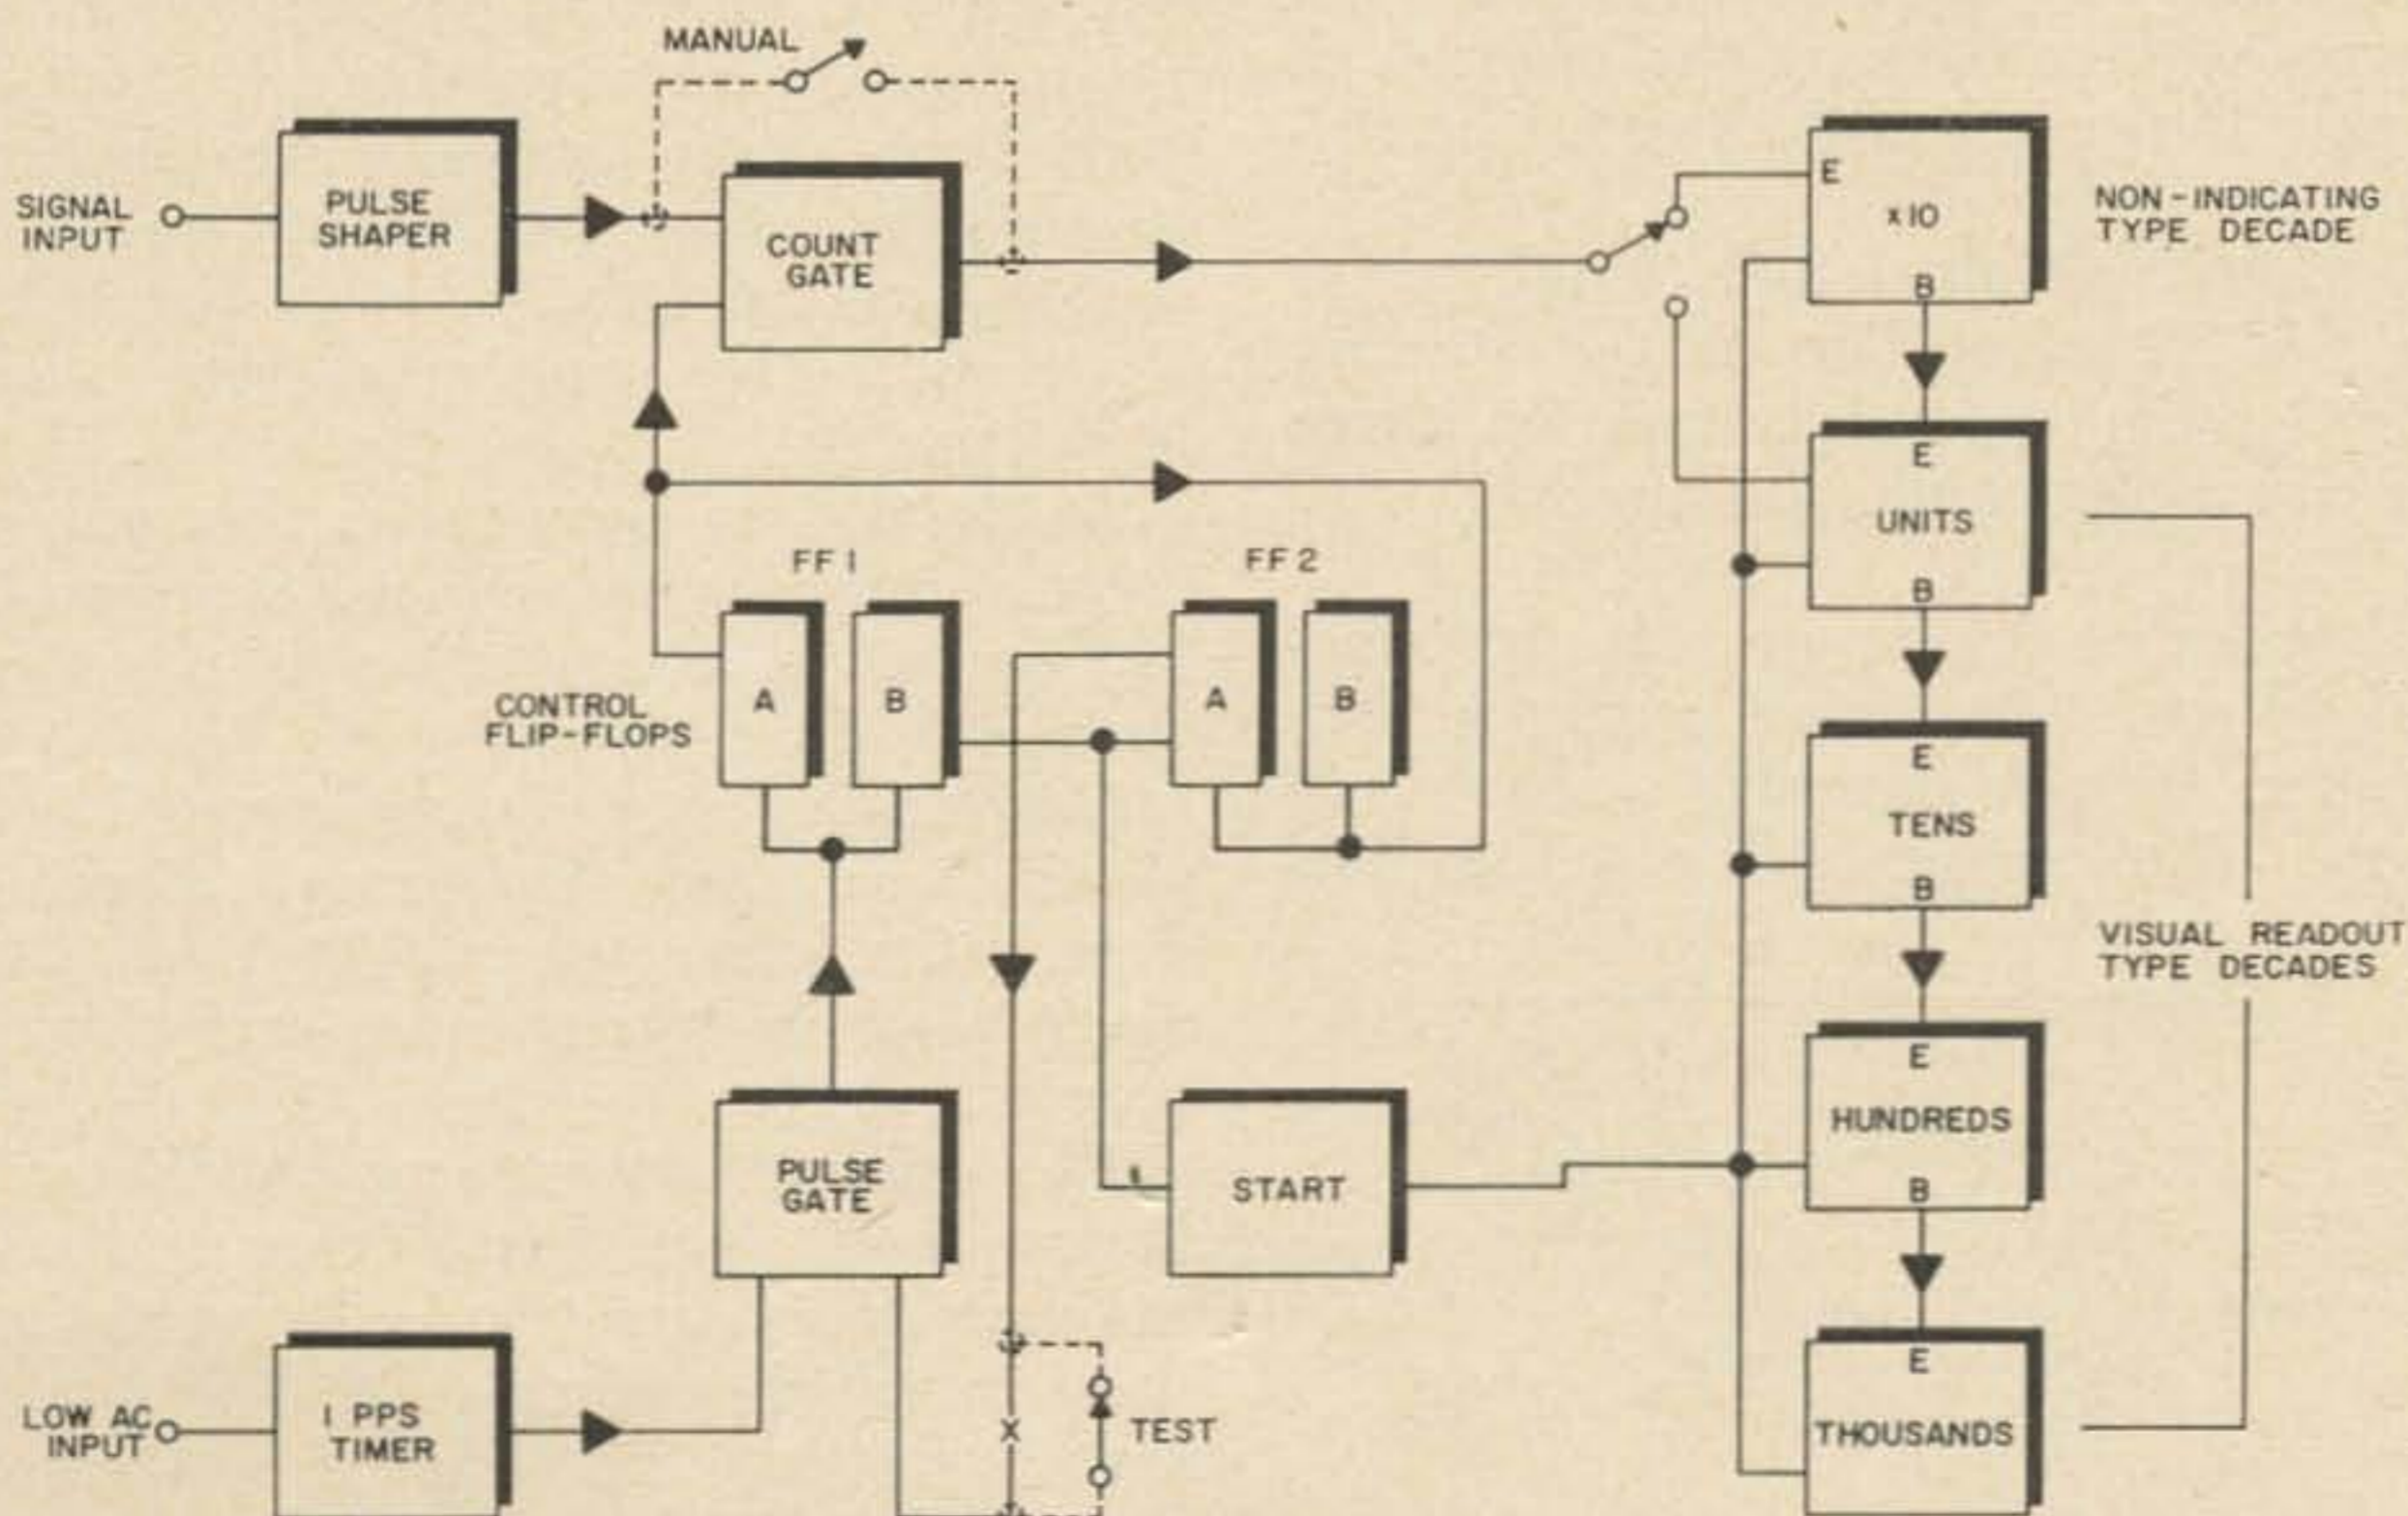

Fig. 1. Automatic counter control.
The circuit diagram of the rf speech clipper is shown in Fig. 1. Provision is made (1) for internal switching of the signal within the SSB exciter for inboard or outboard service (2) for switching the clipper itself in or out with separate gain controls, whether in or out (3) for varying the threshold bias on the 1N34A diodes with the peak limiting control and (4) for varying the output gain to prevent overloading of the succeeding stages in the SSB exciter.
Fig. 1. Schematic of the single sideband escalator. This is a speech clipper-processor for improving the results of SSB transmission. It raises the ratio of average to peak power transmitted.
Fig. 1 is a block diagram of the decade counters and the control circuitry. Four indicating decades give visual readout to 10 kHz. Above this frequency the x10 decade is switched in to multiply all indicating numbers by ten. In either case, the number of cycles made by the counter is determined by noting how many times the last lamp in the series flashes; extending the count beyond that actually indicated.